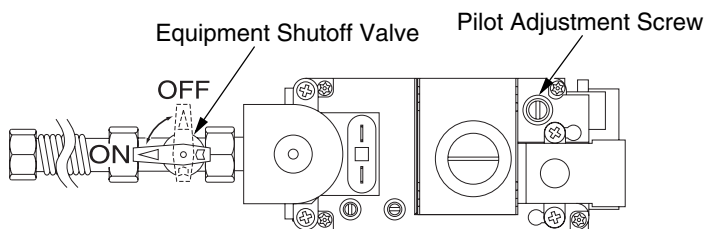

Figure 48 - Turning Equipment Shutoff Valve to the OFF Position
5. Turn equipment shutoff valve clockwise  to the OFF position (see Figure 48). Do not force.
6. Wait five (5) minutes to clear out any gas. Then smell for gas, including near the floor. If you smell gas, **STOP!** Follow "B" in the safety information above. If you don't smell gas, go to the next step.
- Turn the adjustment screw marked PILOT clockwise to decrease or counterclockwise to increase the flame to proper size (see Figure 48, page 25). Do not move the adjustment screw.